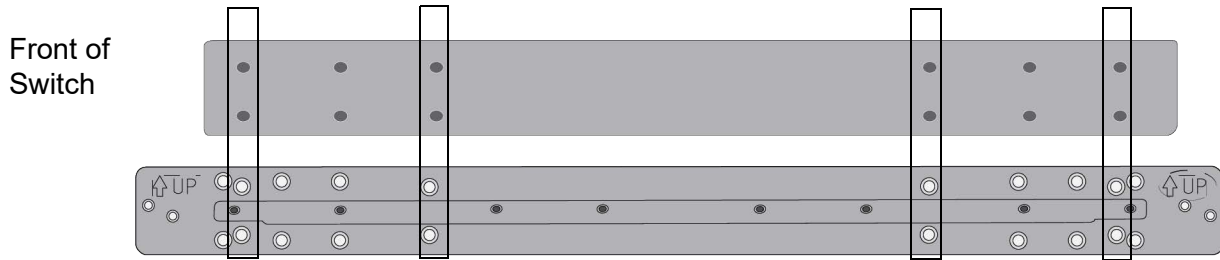

Figure 21. Inner Rail Screw Holes for the x510DP Series
**x510DP Series** Use eight screws on each side. Refer to Figure 21.